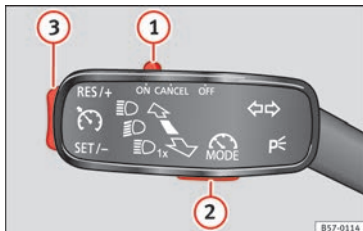

Fig. 189 On the left of the steering column: control and buttons to operate the speed limiter.
If you wish to temporarily switch off the speed limiter, e.g. to overtake, move control » Fig. 189 ① of the turn signal lever into position **CANCEL** or the third lever into pressure point **CANCEL** or press button ② on any lever.